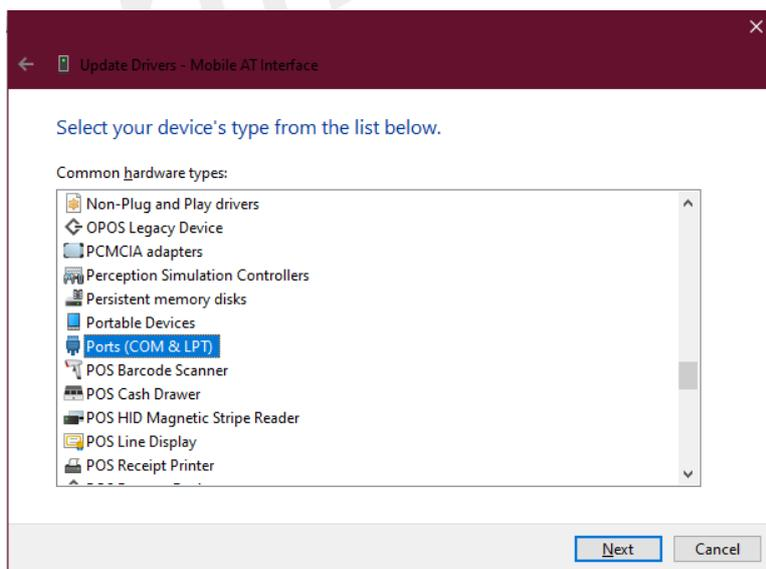

Figure 7: Device type list
6. Selecting “Let me pick from a list of available drivers on my computer”. You will see the device’s type list. Finding “Ports(COM & LPT)” like Figure 7, then clicking “Next”.